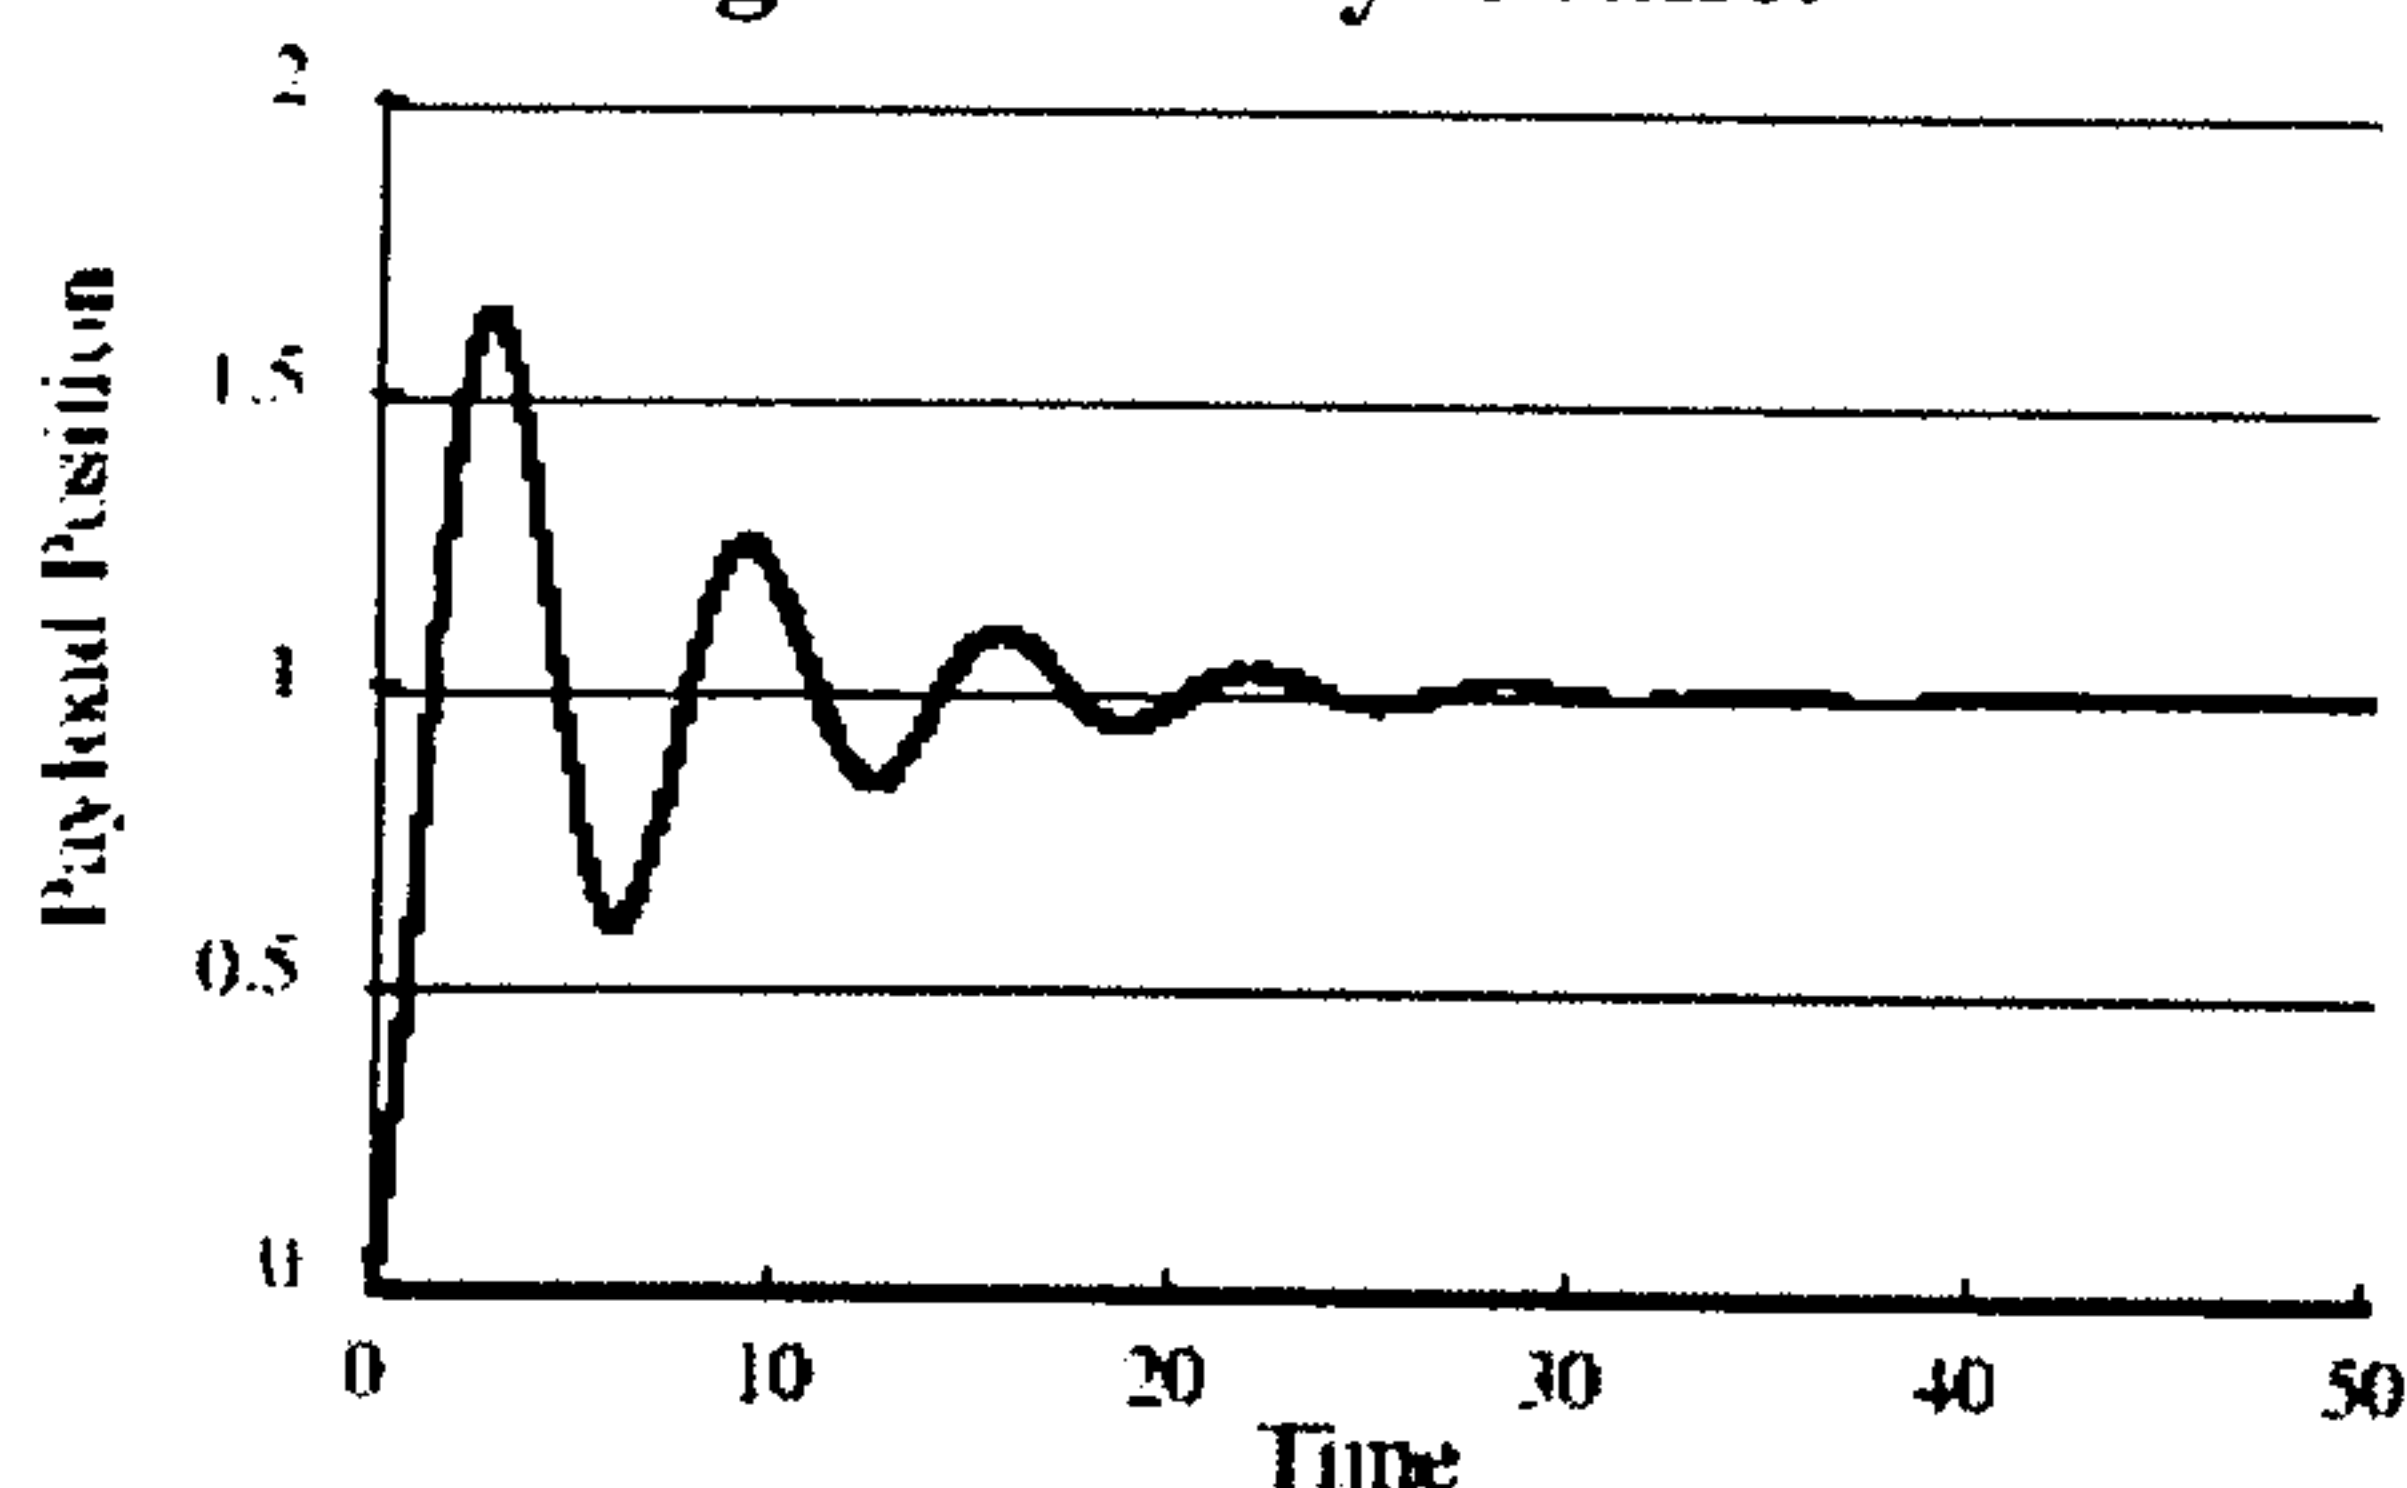
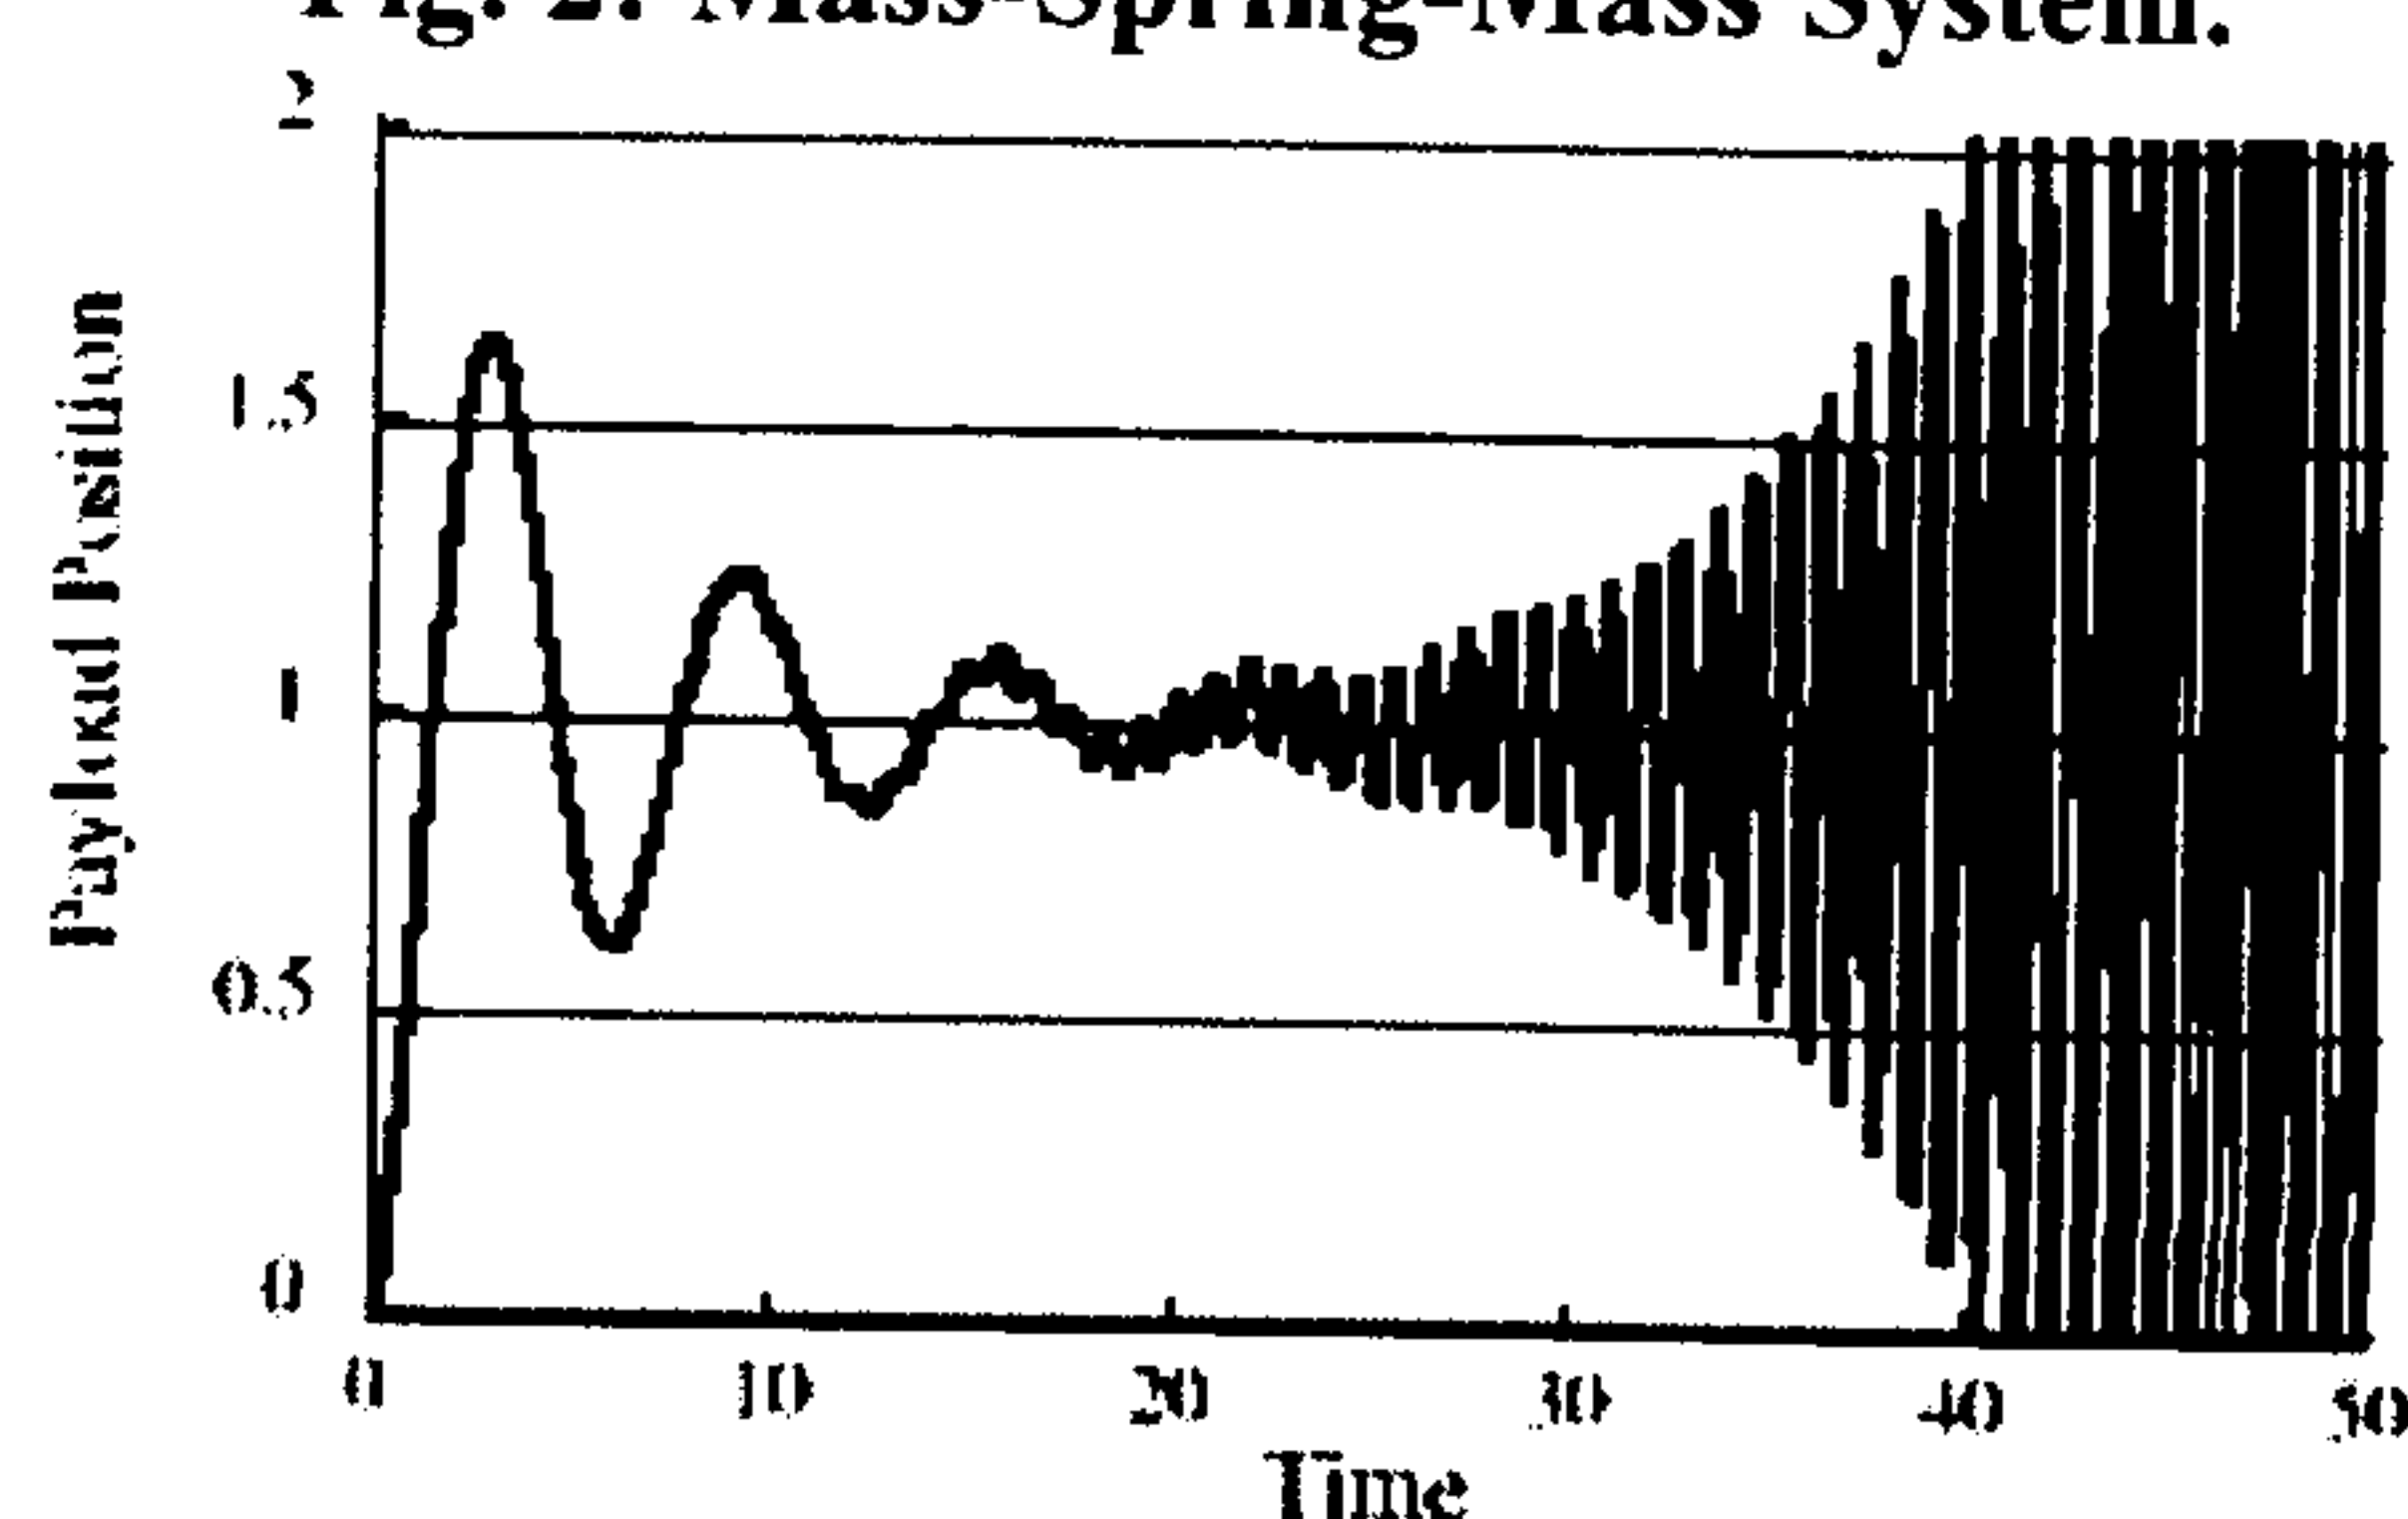

Fig. 3: Response with No Payload.
Fig. 4: Response with Payload.
During initial testing without a payload, the crane trolley responds as shown in Figure 3. The corresponding payload response is very good compared to the natural response which is very lightly damped. Unfortunately, when a payload is attached to the end of the crane, the trolley responded as shown in Figure 4.
- 2) For the case without a payload, the system can be approximately modeled as having no second mass, that is $m_2=0$. Plot a root locus for this case and use it to explain the step response shown in Fig. 3. Use some very simple values for the system parameters, such as $m_1=1$, etc., in order to plot the root locus.
- 3) For the case with a heavy payload, plot the root locus. Compare it to the root locus for the no-payload case and explain the response shown in Fig. 4.